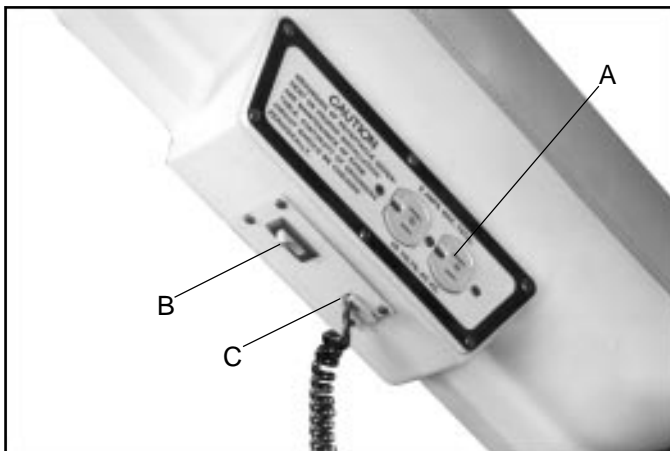

FIGURE 2
The power cord provides power to all of the table's electromechanical actuators and to both of the duplex receptacles located on lower sides of the seat (A, Fig. 2).
**DISABLE SWITCH:** A disable switch which interrupts power to all table actuator motors is located beneath the duplex receptacle on the left-hand side of the table (B, Fig. 2).
Insert hand control cord into the receptacle of both the table, (C, Fig. 2), and into the receptacle in the bottom of the hand control, (A, Fig. 3). Repeat the process to hook up the foot control, (Fig. 4).
Turn the disable switch toward the head end to power up the table, (B, Fig. 2). Then press the green switch or button marked AUTO RETURN. The table's actuator motors will run then shut down automatically. You may now begin to position the table.